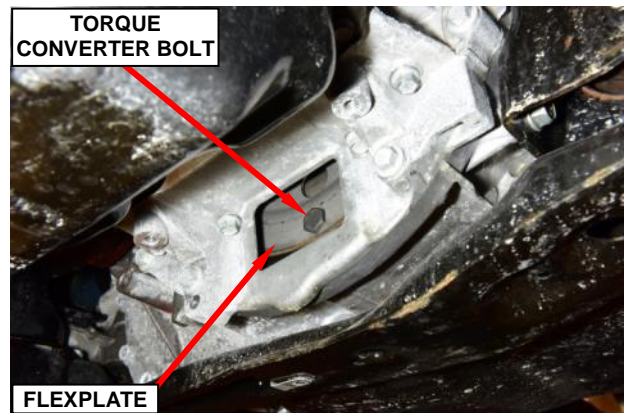

Figure 29 – Torque Converter Bolt
94. Remove and discard the four bolts fastening the flexplate to the transmission torque converter (Figure 29).